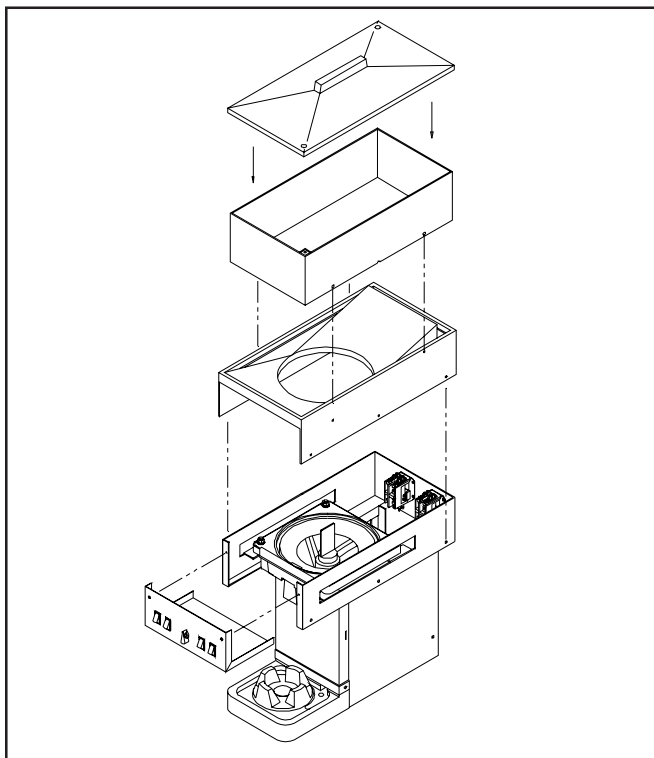

Fig. 5 - Electrical Access
1. Remove the hopper cover. Figure 5.